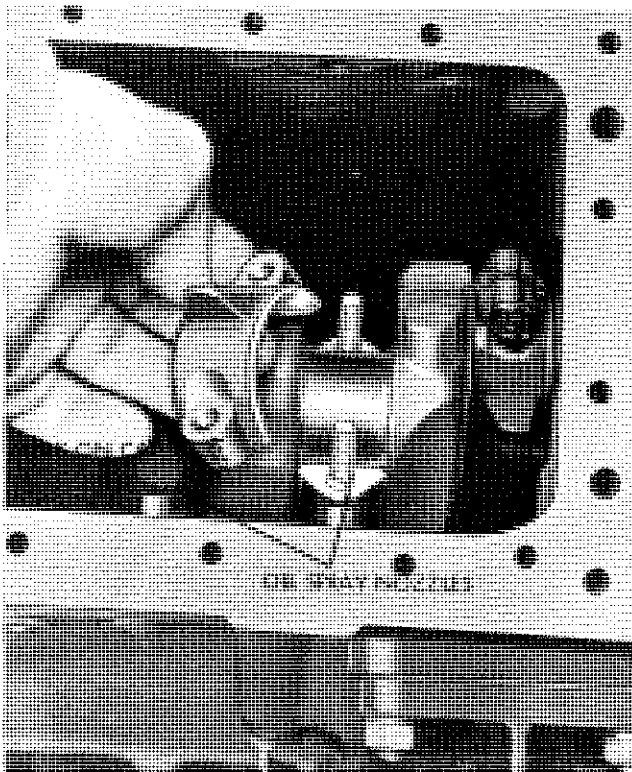

Figure IV-13 Connecting Rod Disassembly
K. PISTONS AND CONNECTING RODS (SEE FIG. IV-13)